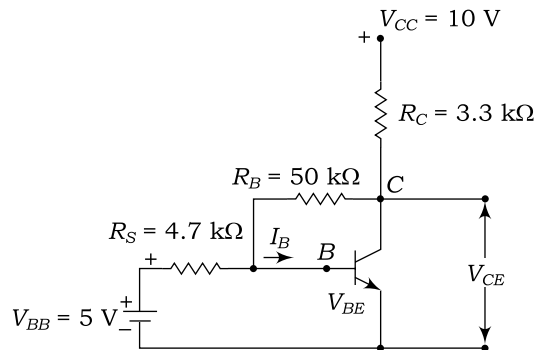

Fig. 2.111
36. Figure 2.111 shows a common-emitter transistor configuration with collector feedback, and it has the following parameters: